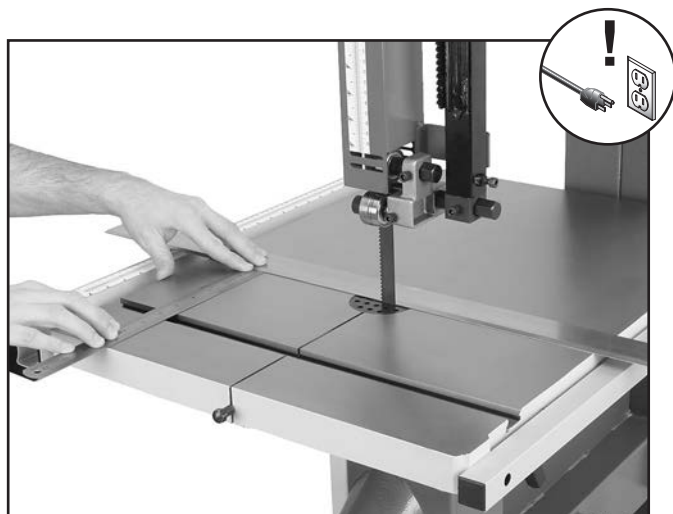

Figure 37. Placing a straightedge along the blade and measuring to the miter slot.
4. Place an accurate straightedge along the blade. The straightedge should lightly touch both the front and back of the blade (see **Figure 37**).
5. Use the fine ruler to measure the distance between the straightedge and miter slot at the front and back of the table (see **Figure 37**).